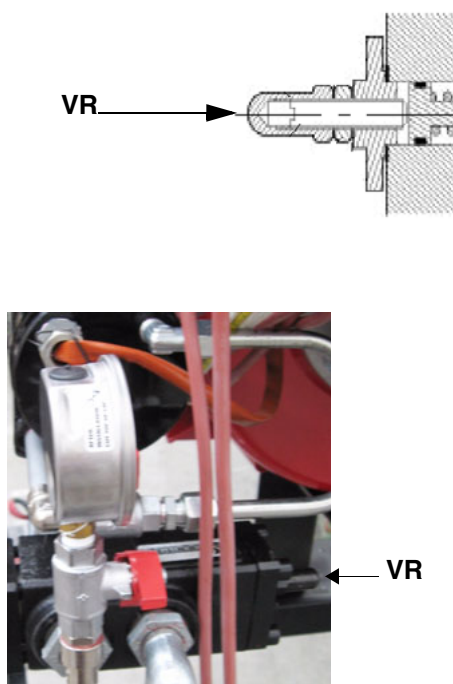

Fig. 20 - Suntec TV
- 10 The nozzle supply pressure is already factory-set and must not be changed. Only if necessary, adjust the supply pressure as follows (see related paragraph); read the pressure on the oil pressure gauge on Fig. 16 and act on the pump governor adjusting screw **VR** (see Fig. 20 and description on page 21) as to get the nozzle pressure at 4-4.5bar (see step 7). If the required flow rate is not reached, increase the feeding pressure by means of the Suntec TV governor (see Fig. 20)